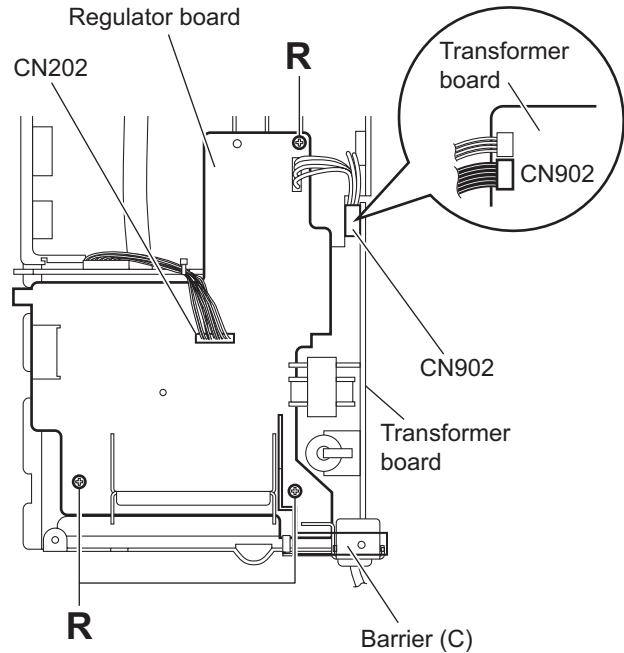

Fig.14
3.1.10 Removing the regulator board (See Fig.14)